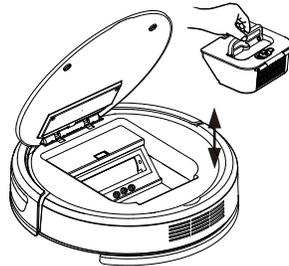

Fig.2
2. As shown in Fig. 2, place the 2 in 1 dustbin & water tank into the cleaner, replace the cover and the unit is ready to mop.